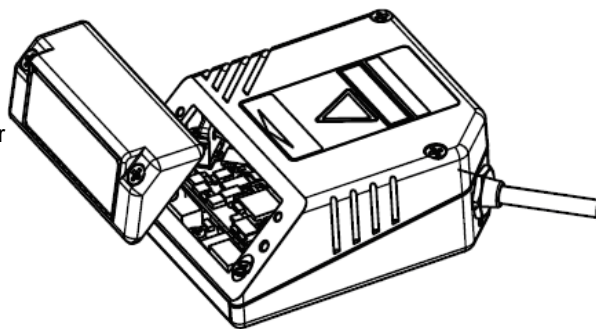

Figure 2
- 2) Remove the scanning window from the scanner (see Figure 2).